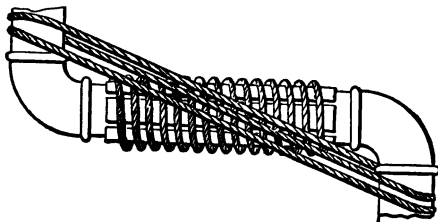

FIG. 87.
**A.** Bind the joint with wood strips sewed well around with stout cord or rope, and prevent endwise separation by more rope diagonally across the break from one reach of pipe to the other. Then when the wood and the cord get wet with the steam the joint will be even tighter than before, because the wood will swell and the cords shorten. (See Fig. 87.)